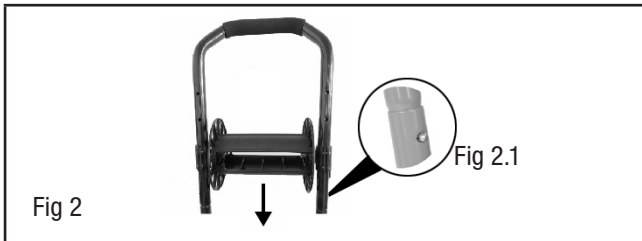

Fig 2
2. Insert the upper handle into the uprights of the lower base (Fig 2), lock into place using the lock catch (Fig 2.1).